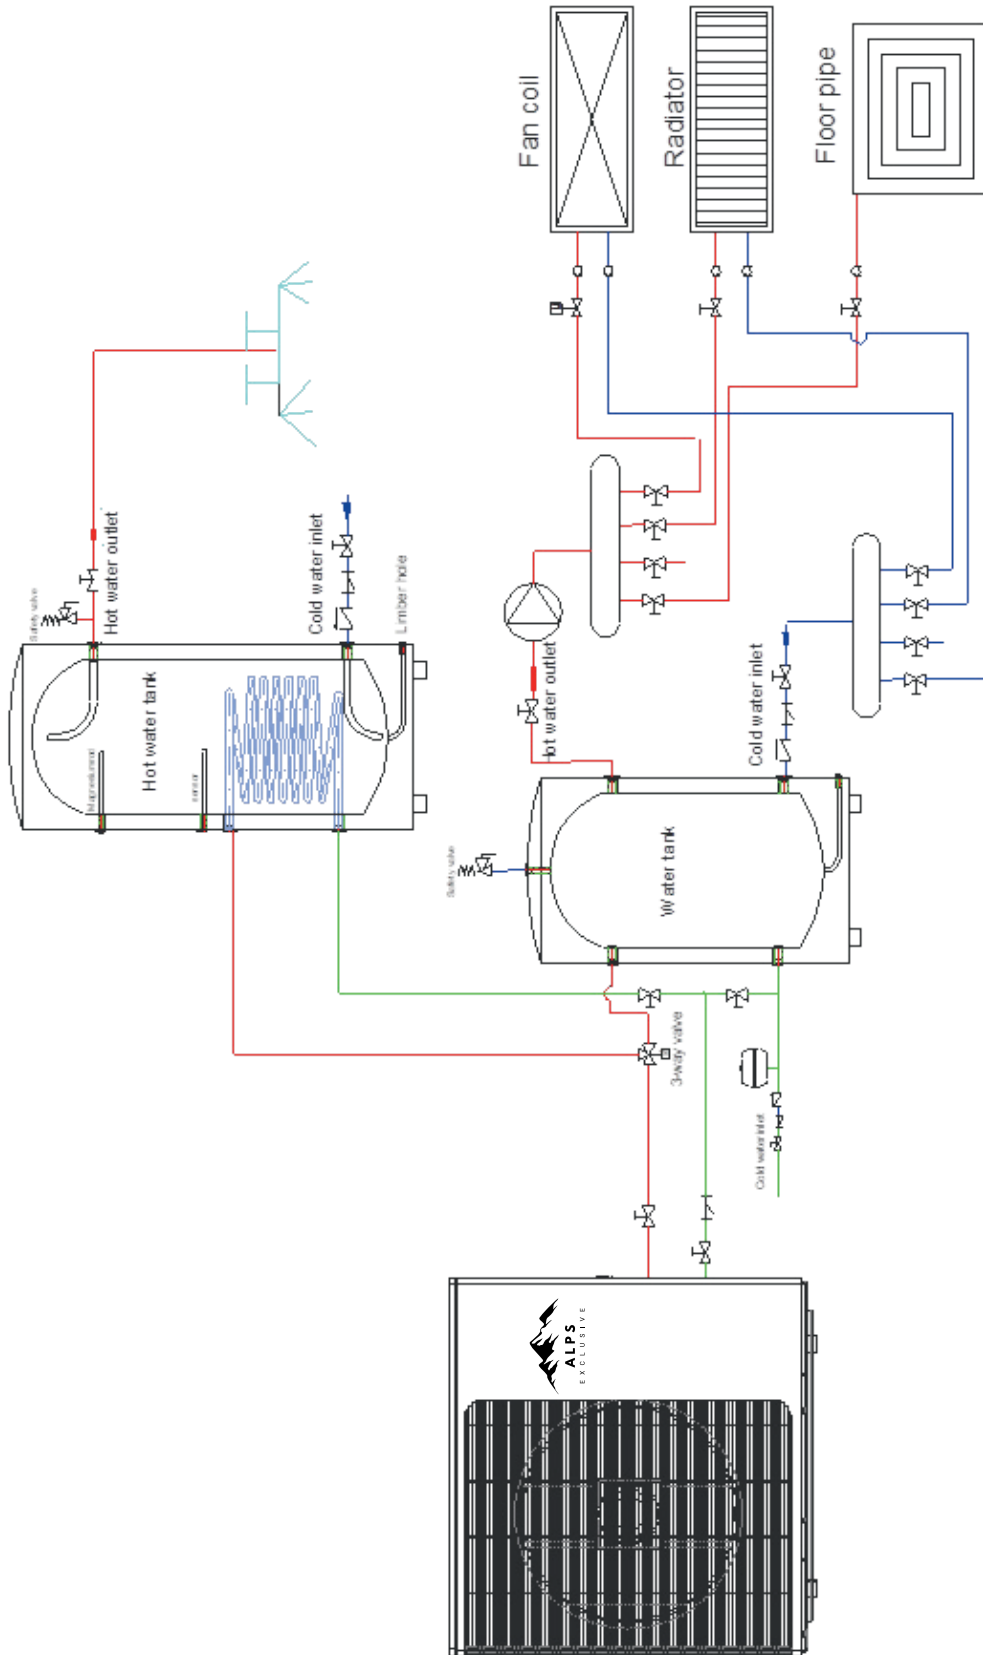

FIGURE 2
- 1) System installation diagram to see Figure 2, Figure 3.